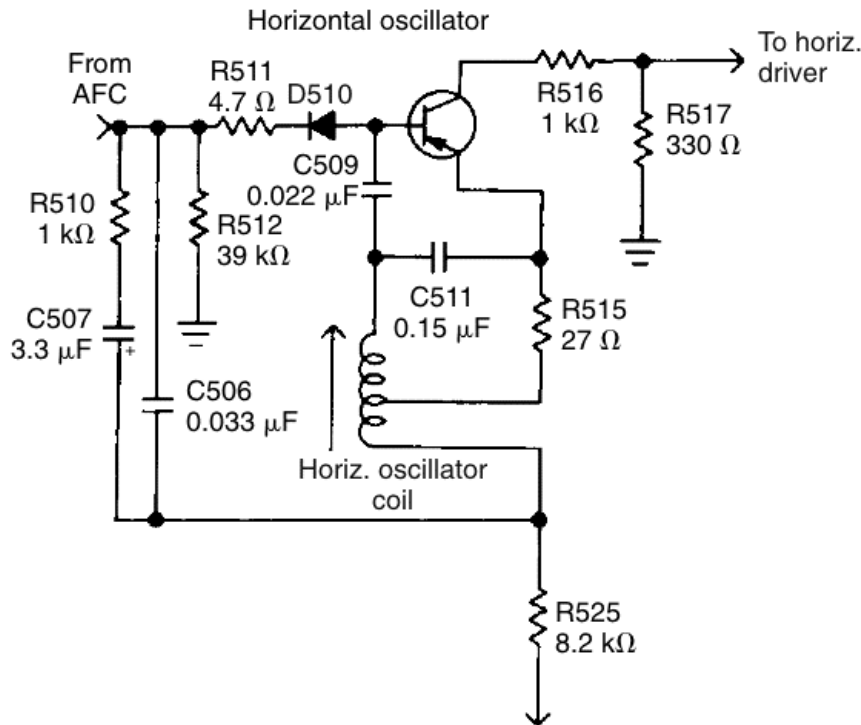

FIGURE 4-70 Replace C507 in a J.C. Penney 685-2041 that shows horizontal “pie-crust” lines.
J.C. Penney 685-2041 horizontal pie-crust lines These unusual pie-crust horizontal lines were caused by a defective electrolytic capacitor in the horizontal oscillator circuits (Fig. 4-70). The 3.3- μF capacitor was replaced by one with a 250-V rating.